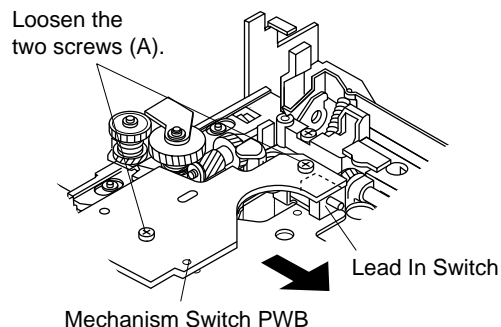

Figure 25-1
1. Loosen the screw (A) x 2 pcs. which fix the mechanism switch PWB.
After position adjustment fix with the two screws (A). (See Fig. 25-1.)